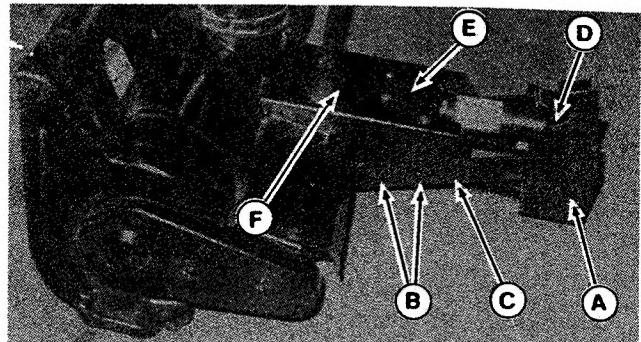

Figure 2.
3. Connect the hitch (A, figure 2) to the body with four 7/16-14 x 1 capscrews and flange nuts (B) and two 3/8-16 x 1 capscrews and flange nuts (C).
4. The rear half of the drive shaft (D, figure 2) is shipped loose. Insert this half into the front half. (Drive shaft is also shown in figure 4.)